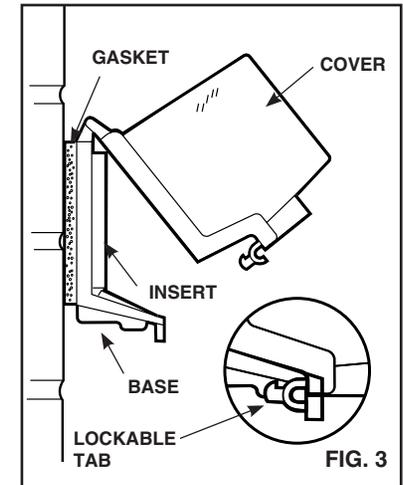
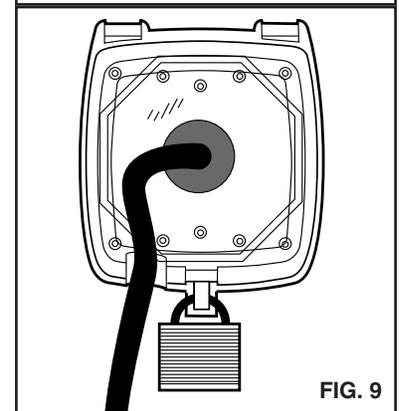

FIG. 3
FIG. 9
To assure a weatherproof seal between the cover and surfaces which are irregular such as brick or cedar siding, a 1/4" minimum bead of nonhardening caulking compound of silicone (preferred), neoprene, urethane or polyurethane type should be placed between the weatherproof receptacle gasket and the mounting surface. (See fig. 3).
A variety of other inserts are available for this cover including 2-5/32" and 2-21/32" round for 30-60 Amp receptacles. These inserts can be rotated 90° to accommodate junction boxes which are mounted either horizontally or vertically. In order to ensure a weatherproof cover, the self-closing receptacle cover must be installed so that the hinge points are located at the top. (See Fig. 3).
8. A molded tab (see Figure 3) is provided to allow for padlocking the cover closed if desired (Figure 9).